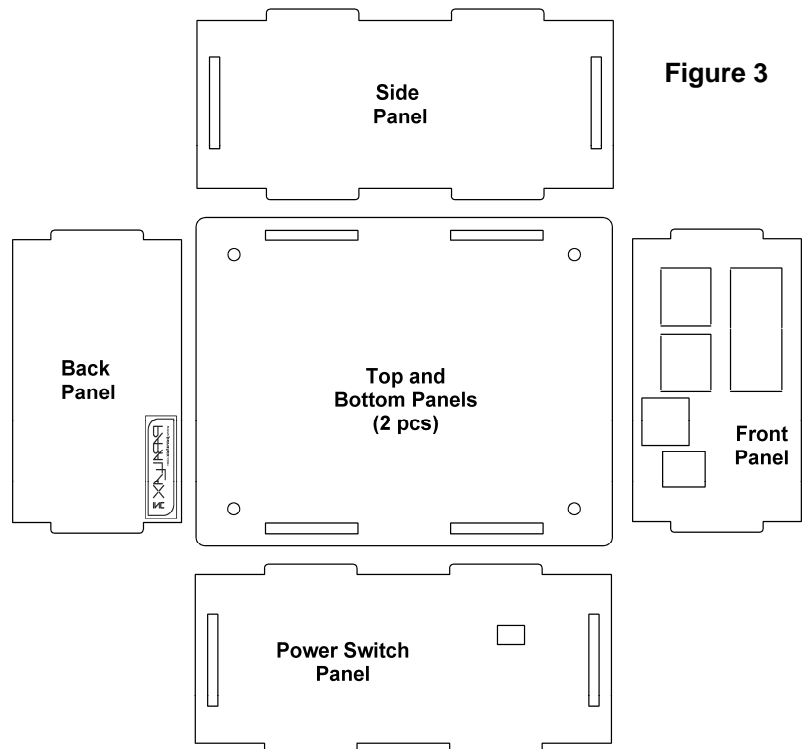

Figure 3
Step 5: Mount one of the large acrylic plates (there are two, and they're identical) onto the short standoffs and attach with (4) #4-40 pan head screws. Do not tighten yet. If you're installing a Board of Education or Super Carrier Board, be sure to install the F/M standoff on the acrylic plate with a #4-40 pan head screw, and then attach the board to the standoff using a #4-40 nut.
Step 6: Flip the assembly right-side up and insert the four sides in their appropriate places. Be sure to orient the sides so that the access holes for the board's power plug, programming port, and power switch are positioned correctly; see Figure 3.
Step 7: Place the remaining acrylic panel on top of the assembly, and attach it with the (4) remaining #4-40 pan head screws. If you're installing a Board of Education or Super Carrier Board, you can use a #4-40 pan head screw and #4-40 nut to close the hole, if you so desire.
Step 8: Tighten all (8) pan head screws.
Step 9: Attach the (4) rubber feet to the bottom, and now you can show off your project!